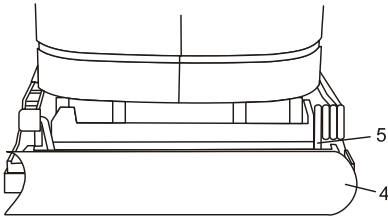

Fig. 2
2. Insert one end of the 1/3 sheet sandpaper (4) with its grit side up into the open front sandpaper clamp (5), making sure it is aligned with the backing pad (Fig. 2). Lift the sandpaper clamp lever upward and inward to lock the sandpaper into clamp.